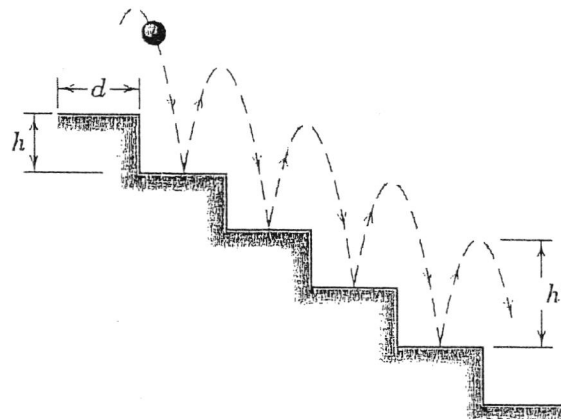

Fig. Q.10
10. Determine the coefficient of restitution e that will allow the ball to bounce down the steps as shown in Fig. Q.10. The tread and riser dimensions are d and h, respectively, are the same for every step, and the ball bounces the same distance h' above each steps. What horizontal velocity v_x is required so that the ball lands in the centre of each tread. 11